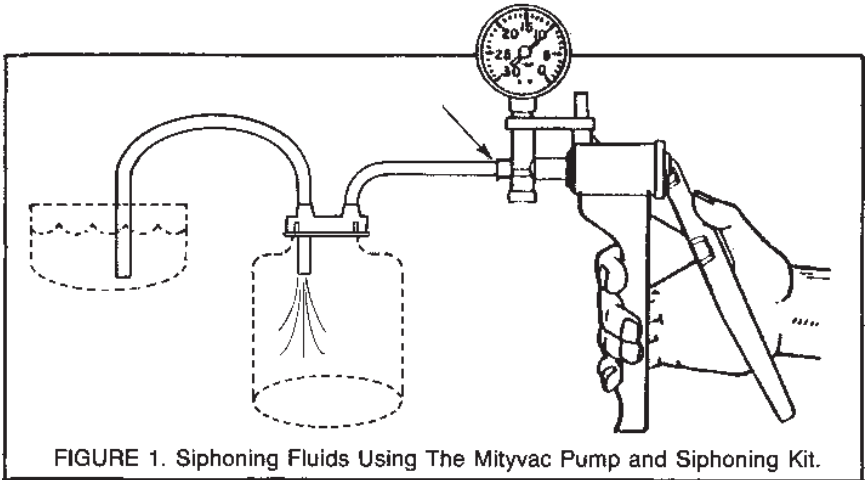

FIGURE 1. Siphoning Fluids Using The Mityvac Pump and Siphoning Kit.
Since the Mityvac® pump was not designed to pump liquids through it, an intermediate receptacle must be used to prevent the liquids from reaching the pump (Figure 1). The siphoning procedure is simple:
2. Connect the piece of 1/4" inside diameter (ID) tubing between lid outlet marked "PUMP" and the vacuum port of the Mityvac® pump as shown (Figure 1).